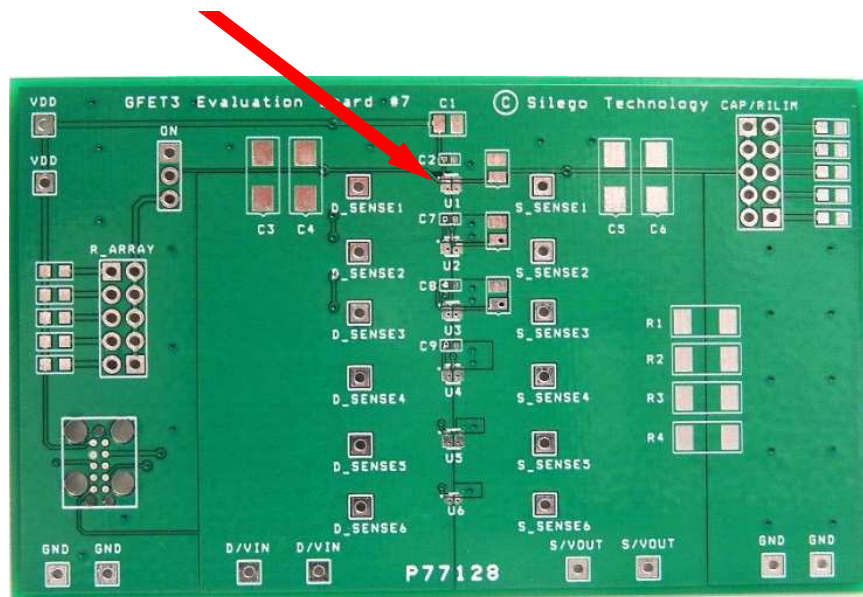

Figure 5. SLG59M1657V Evaluation Board
2. Since the D and S pins dissipate most of the heat generated during high-load current operation, it is highly recommended to make power traces as short, direct, and wide as possible. A good practice is to make power traces with an absolute minimum widths of 15 mils (0.381 mm) per Ampere. A representative layout, shown in Figure 5, illustrates proper techniques for heat to transfer as efficiently as possible out of the device;
A GreenFET Evaluation Board for SLG59M1657V is designed according to the statements above and is illustrated on Figure 5. Please note that evaluation board has D\_Sense and S\_Sense pads. They cannot carry high currents and dedicated only for RDSON evaluation.